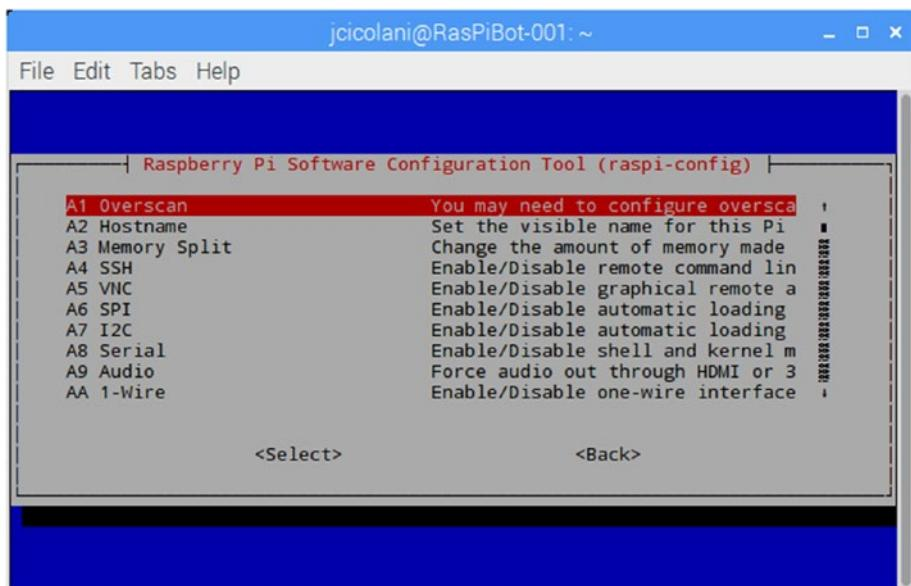

Figure 2-8. *raspi-config advanced options. Hostname and service activation is accessed here.*
12. Make sure that advanced options is highlighted, and then press Enter. This displays the interface and other options (see Figure 2-8).